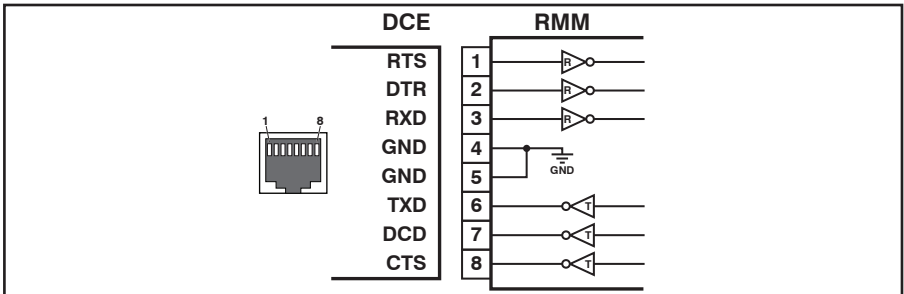

Figure 3. RJ45 Modem Port (DCE)
- **RJ45 Modem Port:** Use a standard Ethernet patch cable. For a description of the port pinout, see Figure 3.
- **RJ45 Modem Port:** Use a standard RJ45 Ethernet patch cable. For a description of the port pinout, see Figure 3.